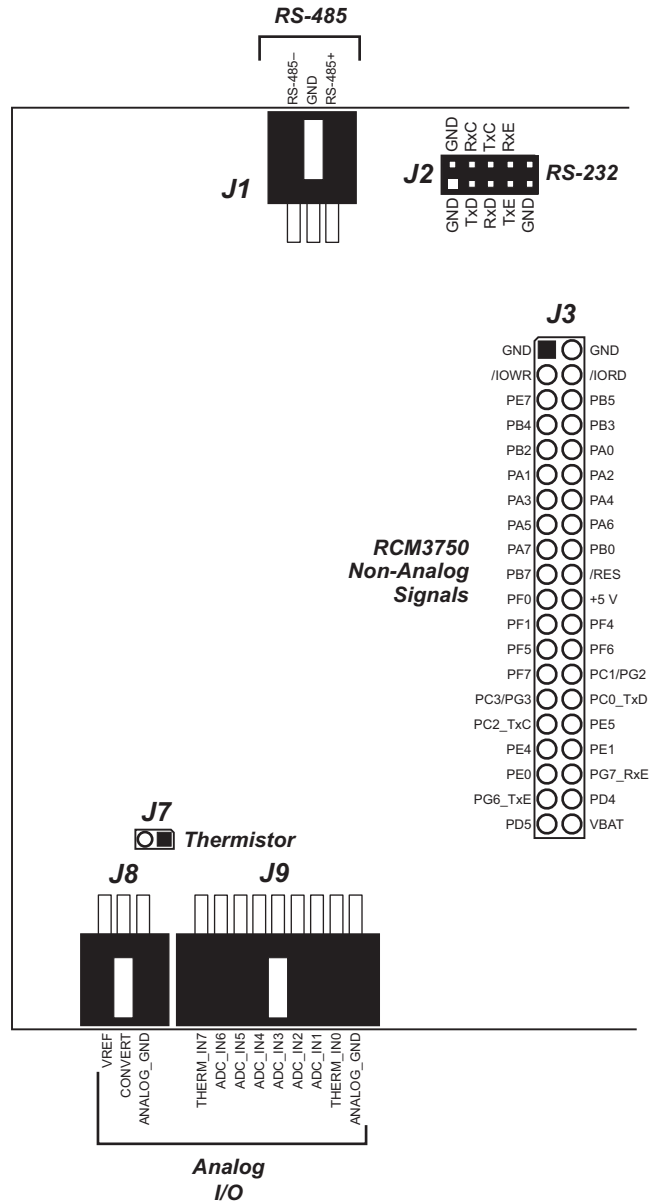

Figure B-4. RCM3700 Prototyping Board Pinout
- **Module Extension Headers**—The complete non-analog pin set of the RCM3750 module is duplicated at header J3. Developers can solder wires directly into the appropriate holes, or, for more flexible development, a 2 × 20 header strip with a 0.1" pitch can be soldered into place. See Figure B-4 for the header pinouts.
- **Analog I/O Shrouded Headers**—The complete analog pin set of the RCM3750 Prototyping Board is available on shrouded headers J8 and J9. See Figure B-4 for the header pinouts.
Figure B-4 shows the RCM3700 Prototyping Board pinouts.
Analog input THERM_IN7 on the Prototyping Board was designed specifically for use with a thermistor in conjunction with the `THERMISTOR.C` sample program, which demonstrates how to use analog input THERM_IN7 to calculate temperature for display to the Dynamic C **STUDIO** window. The sample program is targeted specifically for the thermistor included with the Development Kit with $R_0 @ 25^\circ\text{C} = 3 \text{ k}\Omega$ and $\beta 25/85 = 3965$. Be sure to use the applicable R_0 and β values for your thermistor if you use another thermistor. Install the thermistor at location J7, which is shown in Figure B-4.